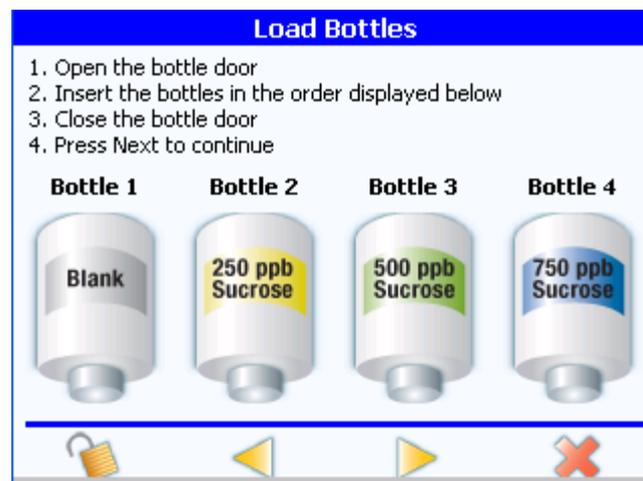

Figure 6-5 Load bottles dialog box, TOC calibration
- If you select default settings, the load bottles dialog box opens. See Figure 6-5.
Forward icon takes you to the load bottles dialog box. All changes made to the custom setup are retained. See Figure 6-5.
- 7) Install the standards bottles following the instructions as shown in the load bottles dialog box and ensuring that you place the standards bottles in the correct positions. See Figure 6-5. From left: